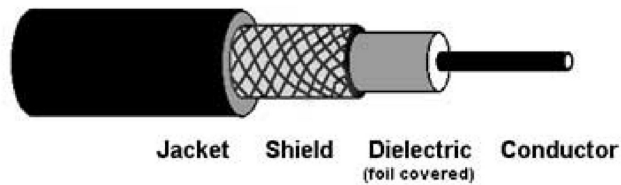

Figure 4. Typical construction of a coaxial cable.
- Also, a few quick words about cables. The BNC cables we use are “coaxial” cables, with one inner conductor surrounded by a cylindrical outer conductor, as shown in Figure 4. The outer conductor typically has a braided wire construction, and it is held at zero volts, also called “ground”. (Ground is a voltage reference point, often connected to the third prong of the electrical plug, which is connected to pipes in the building that include water pipes that are literally connected to the ground.) The outer conductor acts as an electrical shield to reduce noise on the central “signal” line. The coaxial cable also acts as a “transmission line” for high-frequency signals, but we will not get into that in Ph3. BNC is an acronym that once stood for something, but the internet tells us that no one is quite sure anymore what it stood for; so it has become just BNC.